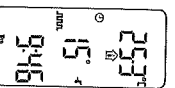

Fig. 18
- c) When all events are programmed press the **PROG** button to return to **RUN** mode (Fig. 18).